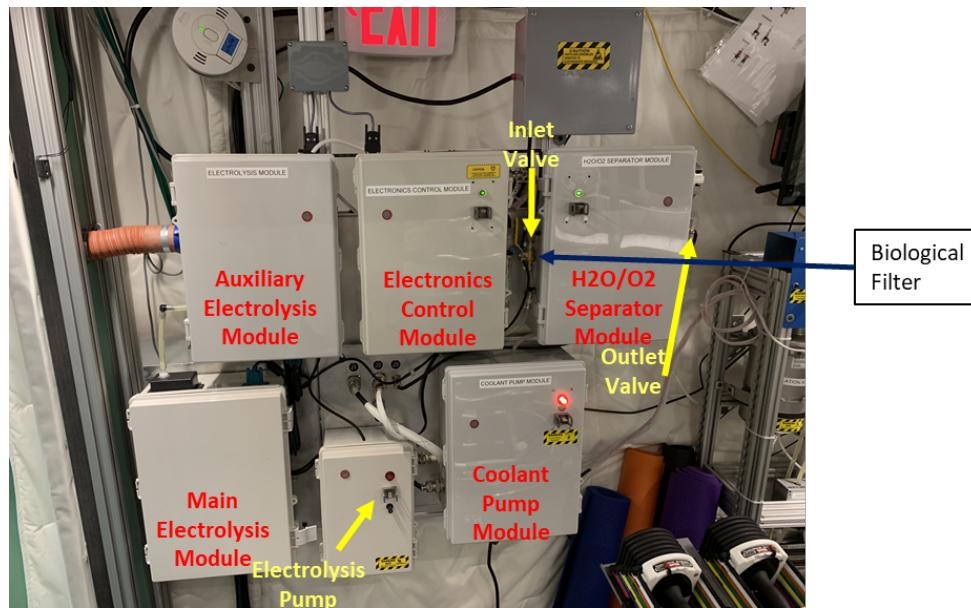

Figure 1: Solid Polymer Electrolysis System
- 1.3 Gather portable anemometer and take reading of exhaust flow to the right of the H2O/O2 Separator Module (see Figure 1). Turn on and set anemometer to m/s. Hold anemometer within an inch of the outlet valve, left of center, for 10 seconds to gather an accurate reading.
- 1.6 Switch inlet valve located to the left of the H2O/O2 Separator Module to “CLOSED”. (see Figure 1).
- 1.7 Switch outlet valve located to the right of the H2O/O2 Separator Module to “CLOSED”. (see Figure 1).
- 1.8 Flip power switch of Electrolysis Pump Module to “OFF”. (see Figure 1).
1.16 Flip power switch of power strip behind Electronics Control Module to “OFF” (see Figure 1).
- 3.1 Switch coolant water valve (located on black tube behind the Auxiliary Electrolysis Canister) to "OPEN" (see Figure 1).
- 3.2 Move power switch of power strip behind Electronics Control Module to "ON" (see Figure 1).
- 3.4 Flip power switch on Electrolysis Pump to "ON" (see Figure 1).
3.5 Unlock both latches on Auxiliary Electrolysis Module and open door (see Figure 1).
3.16 Gather portable anemometer and take reading of exhaust flow to the right of the H₂O/O₂ Separator Module (see Figure 1). Turn on and set anemometer to m/s. Hold anemometer within an inch of the outlet valve, left of center, for 10 seconds to gather an accurate reading. Confirm that O₂ exhaust flow on the right side of the outlet valve of the H₂O/O₂ Separator Module is within 0.6 – 0.8 m/s.